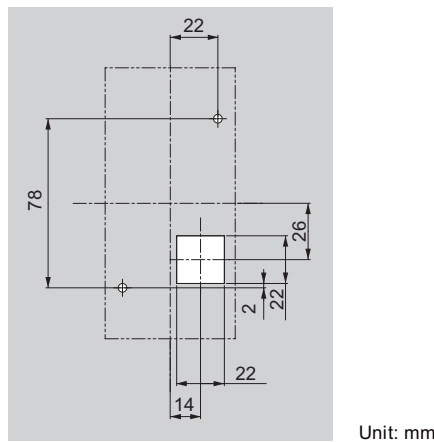

Figure 2.8 Panel Cut-Out Dimensions (External/Face-Mount Installation)
1. Cut an opening in the enclosure panel for the LED monitor as shown in Figure 2.8.